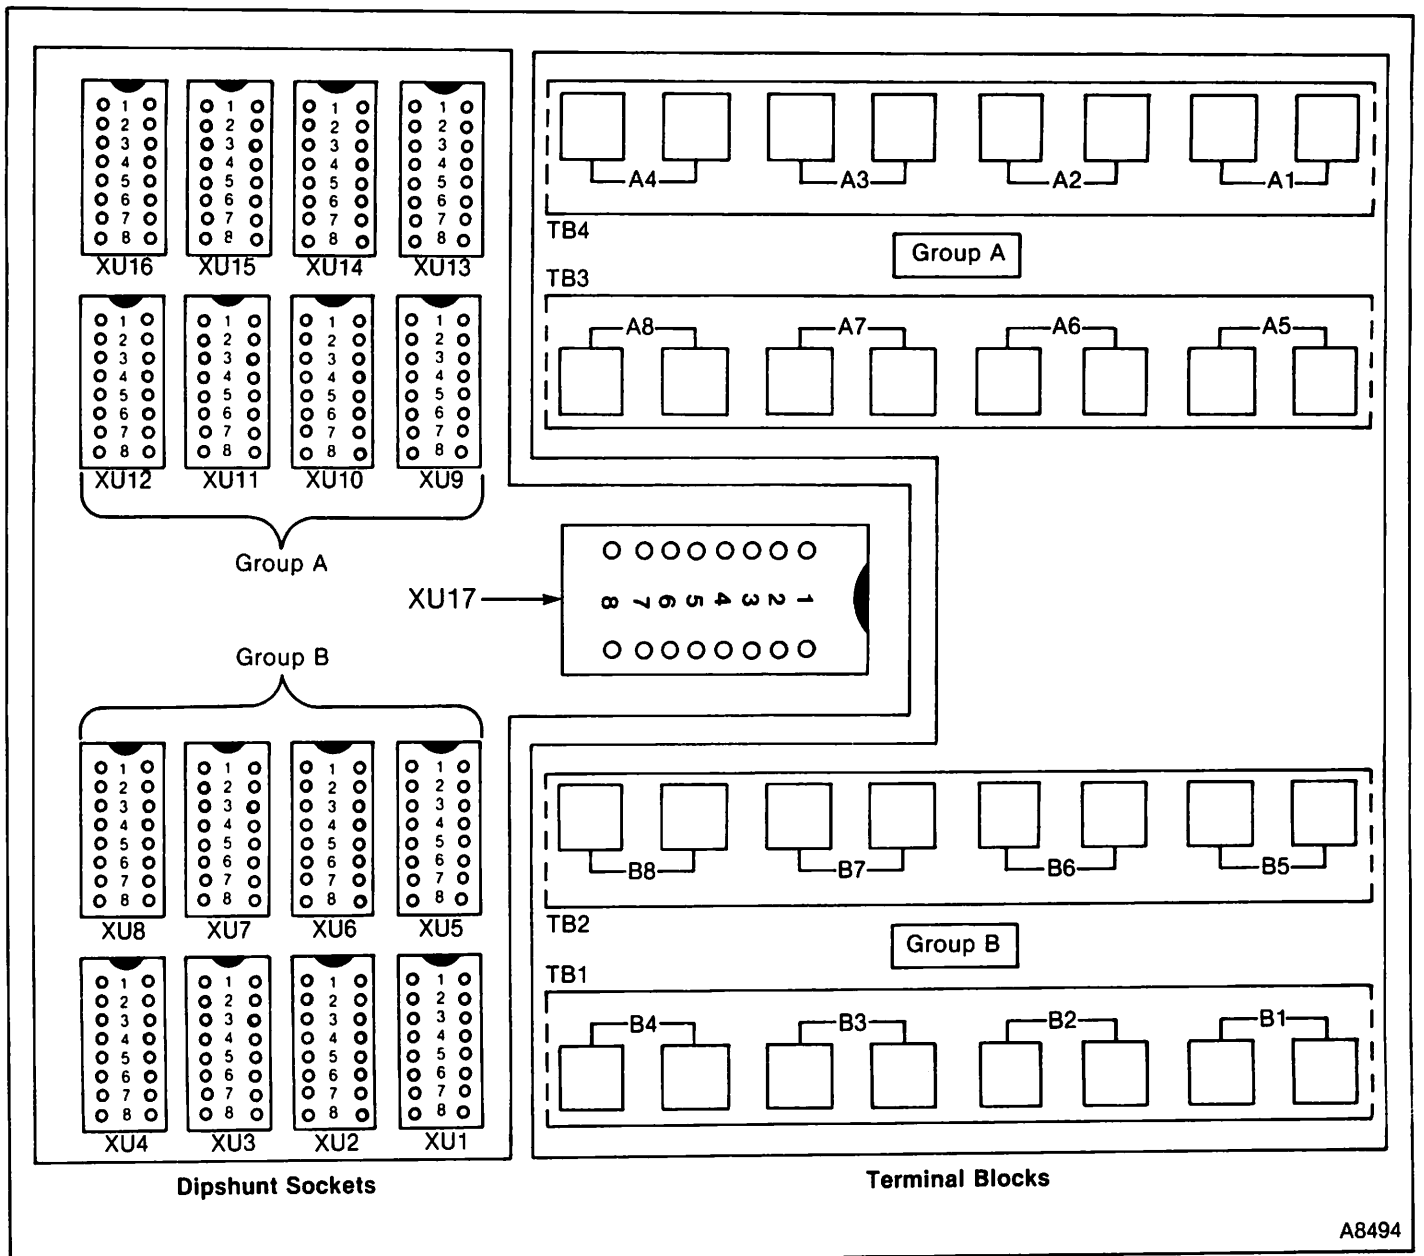
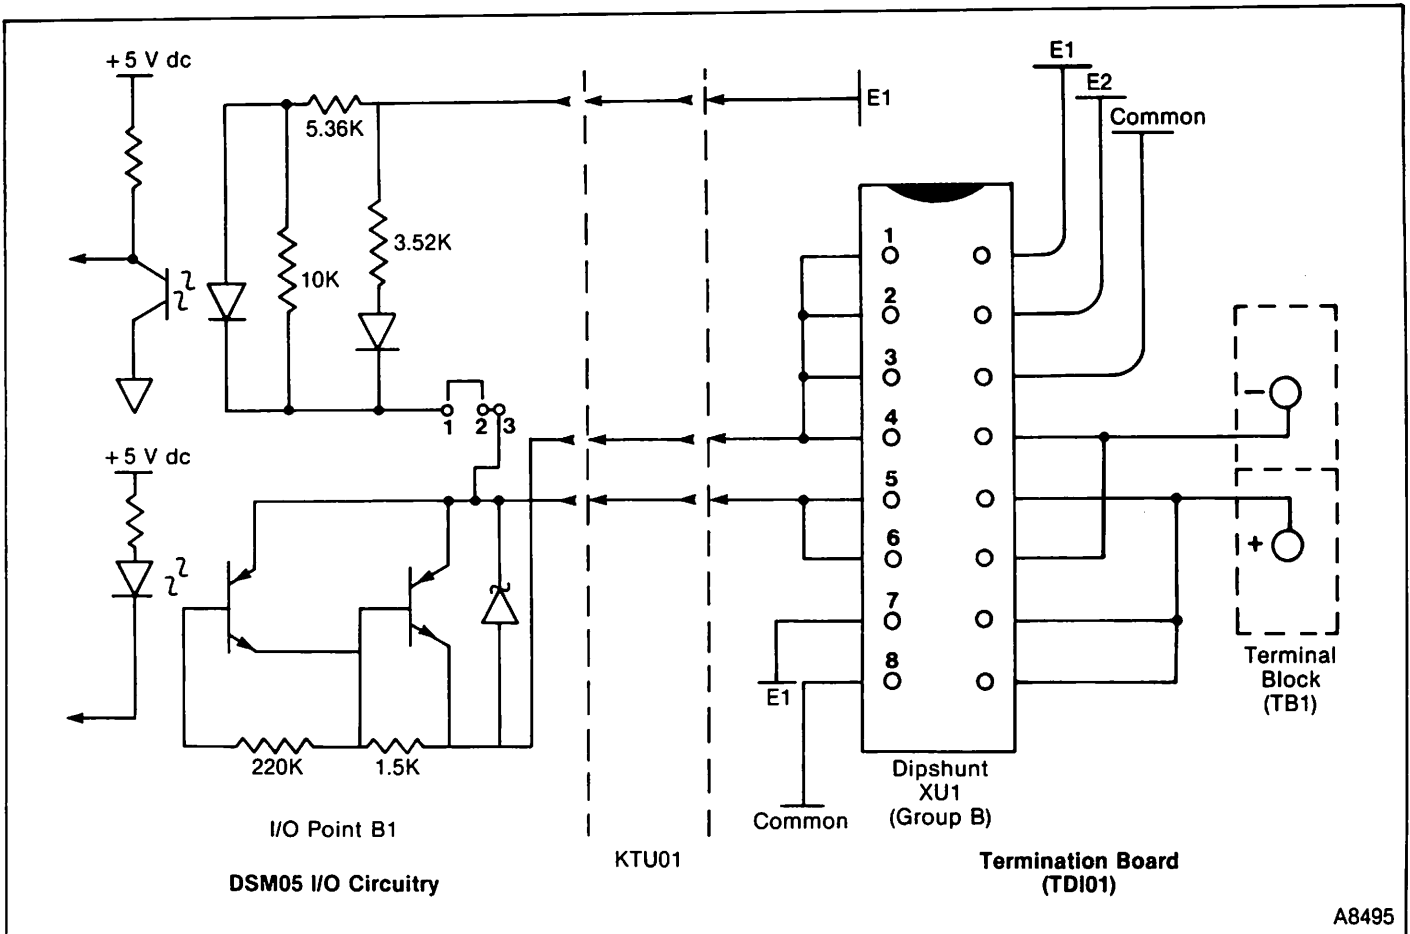

FIGURE 10 — Dipshunts and Terminal Blocks.
FIGURE 11 — Relationship Among Terminal Blocks, Dipshunts, and I/O Points.
**Setting Up Dipshunts and Terminal Blocks.** Figure 10 shows the dipshunt sockets and terminal blocks on the termination unit for the DSM05. Notice that the termination unit has sockets for 17 dipshunts (numbered XU1 through XU17). Notice also that both dipshunts XU1 through XU16 and the terminal blocks fit into two groups: group A and group B. Group A dipshunts relate to group A terminal blocks. Group B dipshunts relate to group B terminal blocks. Both dipshunts and terminal blocks relate to I/O circuitry on the DSM05 module. Figure 11 shows an example of this.
Figure 11 shows the positive and negative posts of terminal block B1 as they tie to dipshunt XU1 in group B (compare Figure 10). It further shows how the dipshunt ties (through posts 4 and 5) to cables that go from the TDI01 to the DSM05 module. Finally, Figure 11 shows how those cables connect to I/O point B1 in the DSM05 I/O circuitry. In short, Figure 11 symbolizes the general relationship of the dipshunts, terminal blocks, and I/O points on the DSM05. This general relationship is a framework upon which users can build specific input or output systems. The user must build such systems before